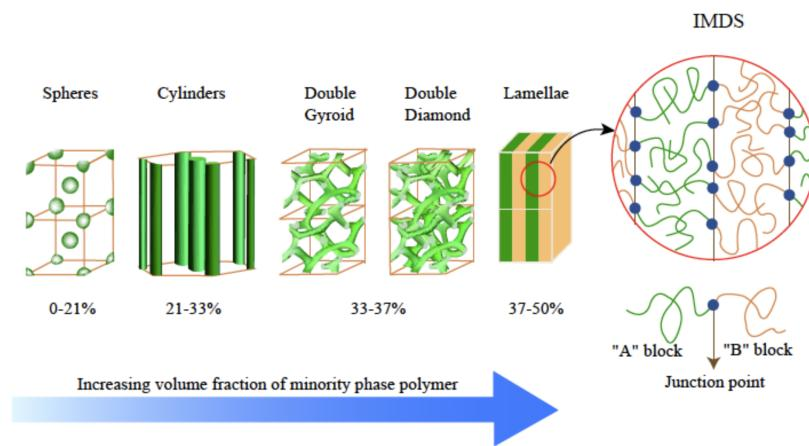

Figure 2.20: Microphase morphologies in diblock copolymers.
- In contrast to Figure 2.20, 40-60% gets you a lamellar state. This accounts for the fact that going on either side of 50% is equivalent.
- In the context of Figure 2.20's green-yellow-green-yellow lamellae,  $\lambda$  is the width of one pair of green-yellow lamellae back to back. You can think of this as a kind of "repeat unit," the smallest structure length necessary such that upon repetition of that structure, the full lamellar mesophase is formed.